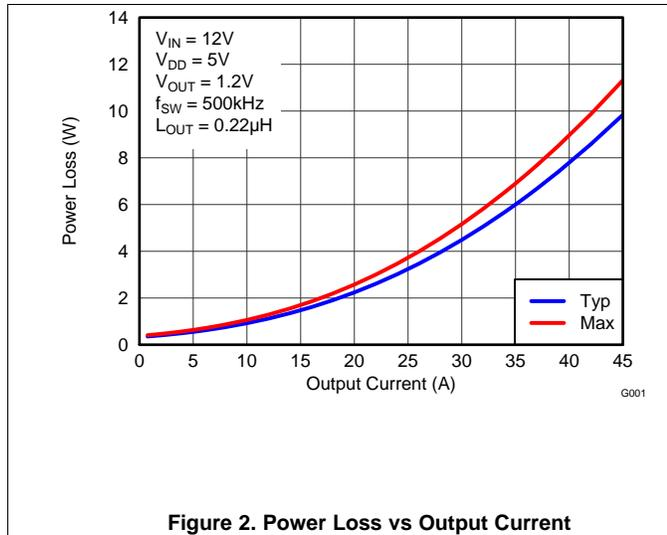

Figure 2. Power Loss vs Output Current
MOSFET centric parameters such as  $R_{DS(ON)}$  and  $Q_{gd}$  are primarily needed by engineers to estimate the loss generated by the devices. To simplify the design process for engineers, TI has provided measured power loss performance curves. Figure 2 plots the power loss of the CSD95373AQ5M as a function of load current. This curve is measured by configuring and running the CSD95373AQ5M as it would be in the final application. The measured power loss is the CSD95373AQ5M device power loss, which consists of both input conversion loss and gate drive loss. Equation 1 is used to generate the power loss curve.
The power loss curve in Figure 2 is measured at the maximum recommended junction temperature of  $T_J = 125^\circ\text{C}$  under isothermal test conditions.
- Typical Power Loss at 30 A = 4.5 W (Figure 2)